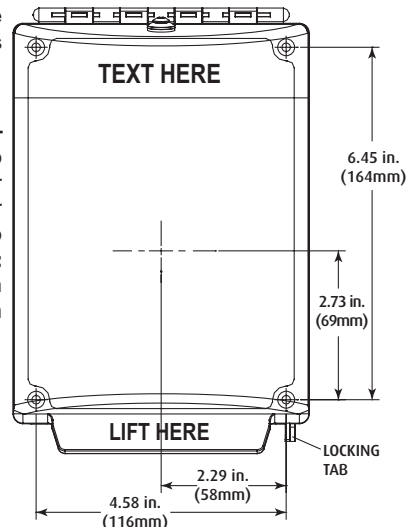

Fig. 1
1. Orient the Universal Stopper with hinge on the top side. Center the pull station to the Universal Stopper with the help of the dimensions in Fig. 1. Open cover and use the mounting frame or optional backplate to mark the mounting hole locations as in Fig. 1. **NOTE:** Be sure the entire cover travel will not interfere with operation of the pull station or other safety system equipment when installed.